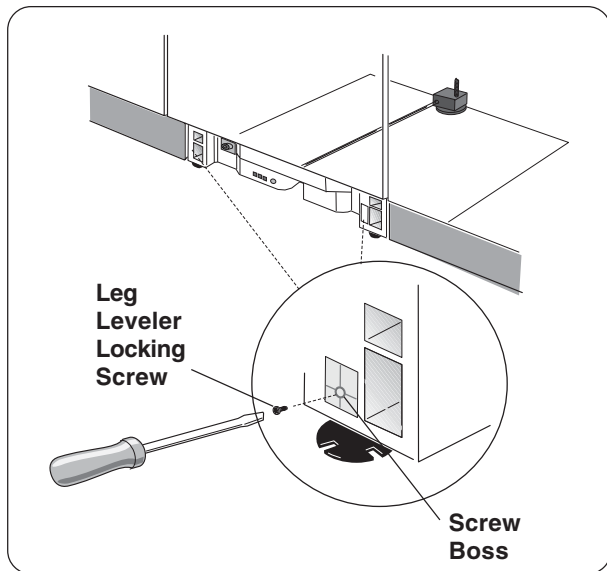

Figure 22
- 2 After the unit is installed in the enclosure, leveled and secured, lock the two front leg levelers in place by driving the enclosed leg leveler locking screws into each screw boss located in front of the levelers. See **Figure 22**.